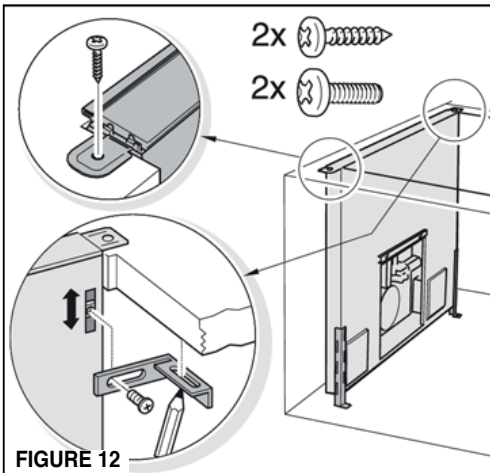

FIGURE 12
6) Secure the hood to the countertop with two screws. If possible, install the angle brackets underneath the countertop for additional support. First, loosely screw the brackets into the sliding nuts in the housing and push them up under the countertop. Pre-drill the mounting holes into the countertop from underneath. Use screws of the proper length. (FIGURE 12)